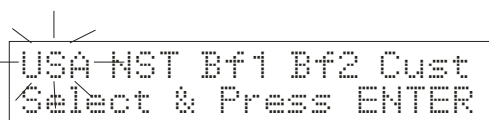

Figure 82
3. Press **>/CAL** key to toggle between *USA NST Bf1 Bf2 Cust*. Buffer set selected will flash. See **Figure 82**.